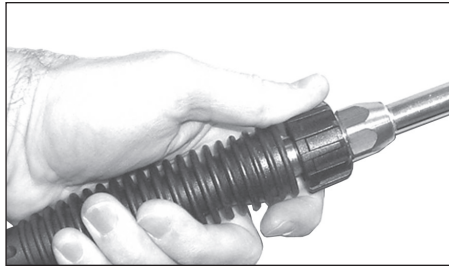

Figure 8 - Attach lance to gun
1. Attach the lance to the gun (See Figure 8).